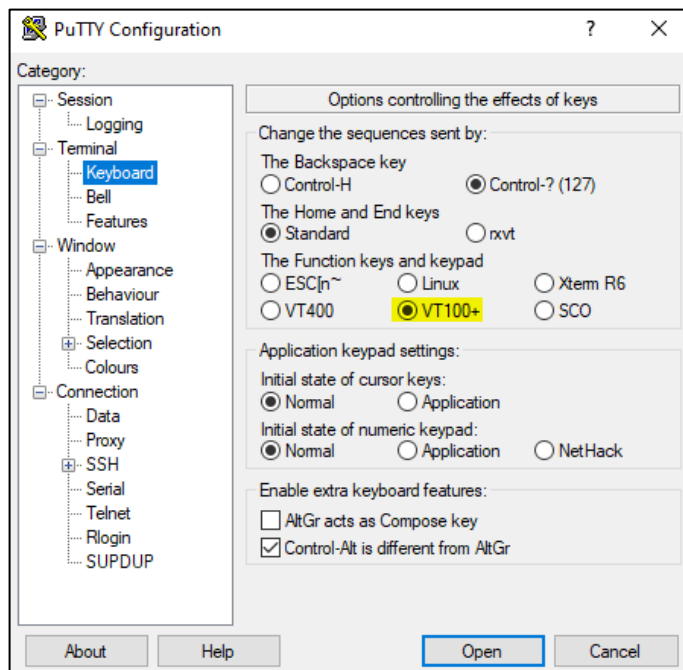

Figure 9: VT100 Settings
9. Set everything as shown in "Fig. 9 VT100 Settings" marked in yellow.